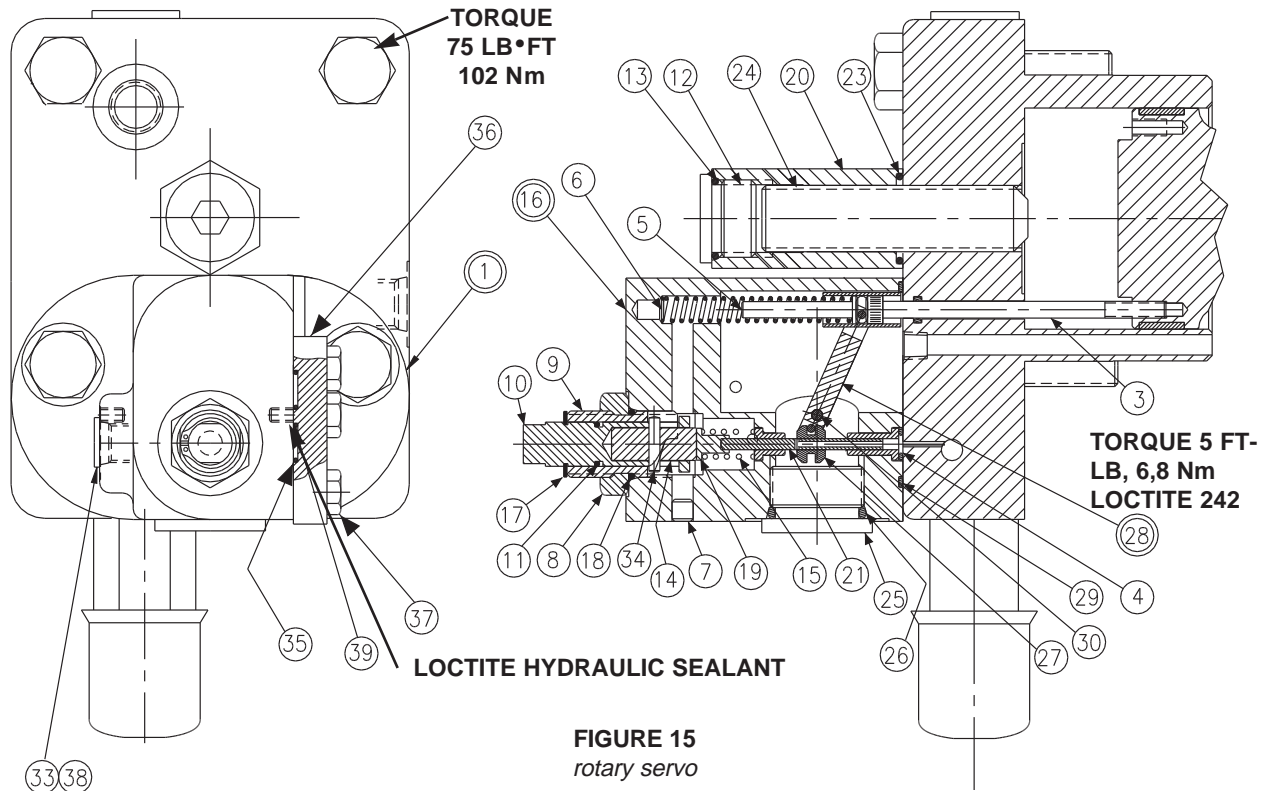

FIGURE 15
| 1 | #Rotary Servo (Fig. 15) | S22-16005 | S22-16006 | 1 | 1 | 1 | 1 |
PARTS LIST FOR FIGURE 15
1. See Figure 15. Remove 2 screws holding body (16) to cap assembly (1).
2. Remove all parts from body (16) except pin (30) and arm assembly (28). It is not necessary to remove these parts unless broken or worn. Examine parts for wear or damage.
3. Remove screw (3). Examine head for excessive wear, and body for smooth sealing surface with O-ring.
2. Install spool (4) into bore as shown. Install spring (8) over end of spool.
3. Install O-ring (13) on spring retainer (12). Install retainer (12), screw (14) and nut (15) in plug (3).
4. Install O-rings (7) and (16) on plug (3). Install plugs (3) and (9) in body (1). Install orifice (20) and plugs (10). Torque plugs. Install O-ring (5) in cap.
5. Turn screw (14) in until spring retainer (12) contacts spring (8). Turn an additional 1-1/2 turns and lock in position.
8. See Figure 15. Apply Loctite 242 on threads of screw (3), lubricate the shank, thread through the cap into the control piston, and torque to 5 lb.·ft., 6,78 N m.
9. Install minimum stop screw (24) and turn clockwise to stroke pump to full stroke. Measure height from control cap to top of screw (3). With control piston at full stroke, dimension must be .45 +/- .03 in., 11,4 +/- 0,76 mm. Back out minimum stop screw (24) till there is no contact with control piston.
10. Press dowel (30) into body (16), through the link (28), to 1/4 in., 6,35 mm below surface. Apply Loctite hydraulic sealant to threads of screws (39) and install over dowel (30).
11. Press spool (21) into retainer (19). Caution: do not use excessive force.
12. While sleeve (27) is engaged into dowel on link (28), slide above spool assembly with spring (15) into bore of body (16), and through sleeve (27). Spool (21) must move freely and easily at all positions of the link (28).
13. Press dowel (34) through slide pin (14), while inside shaft (10). Dowel (34) must evenly extend from both sides of slide pin (14).